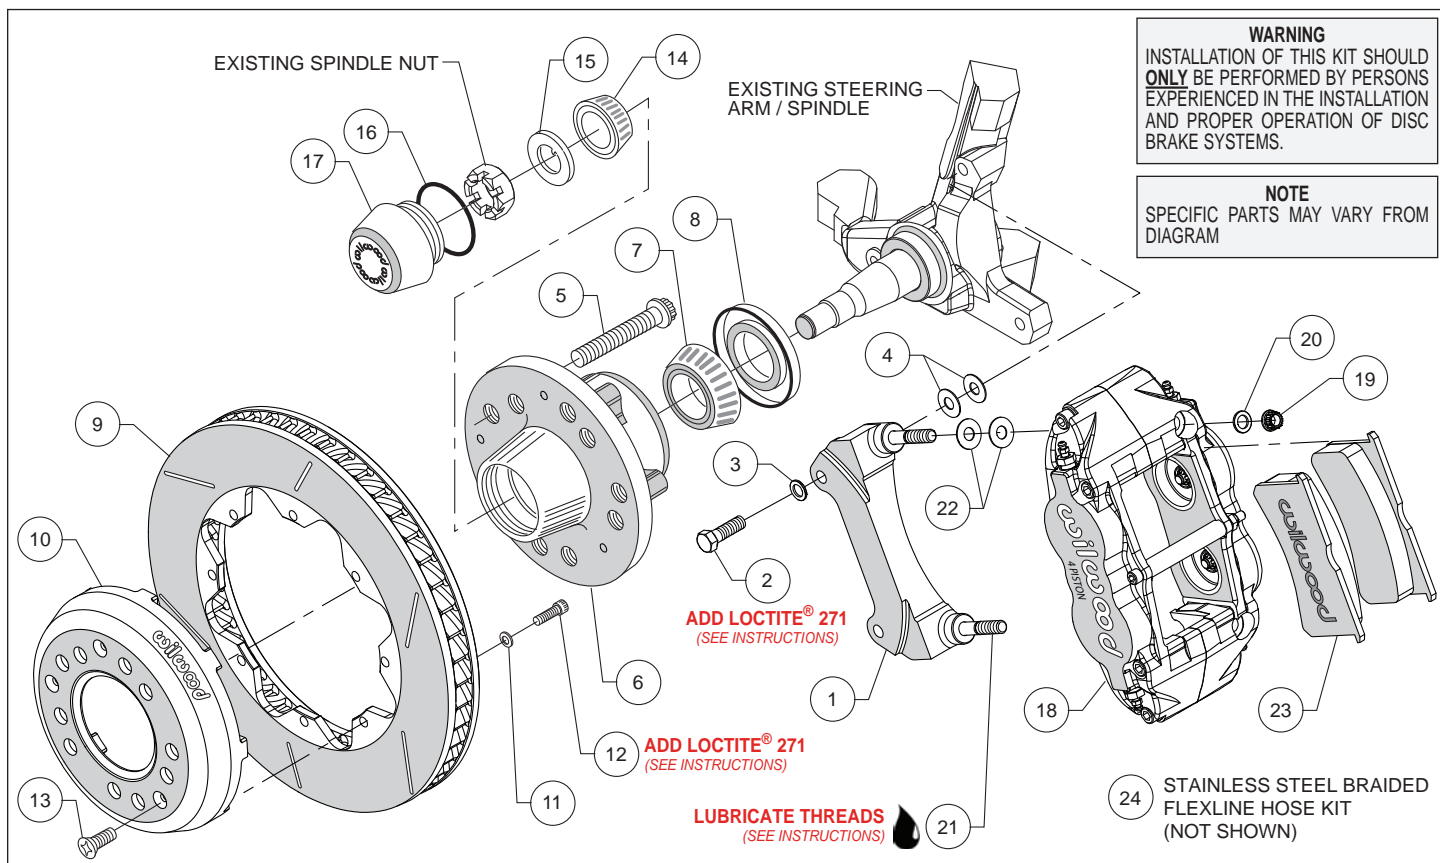
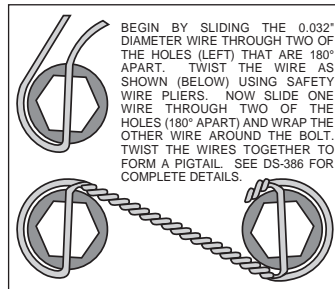

Figure 2. Typical Installation Configuration
Figure 4. Safety Wire Diagram
Assembly Instructions (numbers in parenthesis refer to the parts list and Figure 2 on the preceding page):
- The caliper mount bracket (1) should initially be installed with clean, dry threads on the mounting bolts. Orient the bracket as shown in Figure 2 and Photo 1, and install using bolts (2) and washers (3). Initially place two .035" thick shims (4) on each bolt between the bracket and upright, Figure 2. Temporarily tighten the mounting bolts. **NOTE:** The bracket must fit squarely against the mounting points on the spindle. Inspect for interference from casting irregularities, machining ridges, burrs, etc. Later, after the caliper alignment has been checked, the mount bolts will be secured using red Loctite® 271.
- Orient the rotor (9) and the hat (10) as shown in Figure 2 and Photo 4. Attach rotor to hat using bolts (12) and washers (11). Using an alternating sequence, apply red *Loctite*[®] 271 to the threads, and torque to 25 ft-lbs. For an added measure of security, the bolts may be safety wired using standard 0.032 inch diameter stainless steel safety wire as shown in Figure 4. Refer to Wilwood's data sheet DS-386 (available at www.wilwood.com/Pdf/DataSheets/ds386.pdf) for complete safety wire installation instructions.
- **NOTE:** This kit contains distinct right and left hand calipers that must be mounted in a specific direction, as described below. Lubricate the caliper mounting studs (21) with lightweight oil. Initially place two .035" thick shims (22) on each stud between the caliper and the bracket, as shown in Figure 2 and Photo 7. With the bleed screws pointing up, mount the caliper (18) onto the bracket (1) using lock nuts (19) and washers (20), Figure 2. Ensure that the caliper is mounted so the largest pistons are at the rotor exit end of the caliper, in relation to the direction of rotor rotation. Temporarily tighten the lock nuts and view the rotor through the top opening of the caliper. The rotor should be centered in the caliper, Photo 8. If not, adjust by adding or subtracting shims (4) between the bracket and the spindle. Always use the same amount of shims on each of the two mounting bolts. Once the caliper alignment is correct, remove the bracket mounting bolts one at a time, apply red *Loctite*[®] 271 to the threads, and torque to 40 ft-lb.